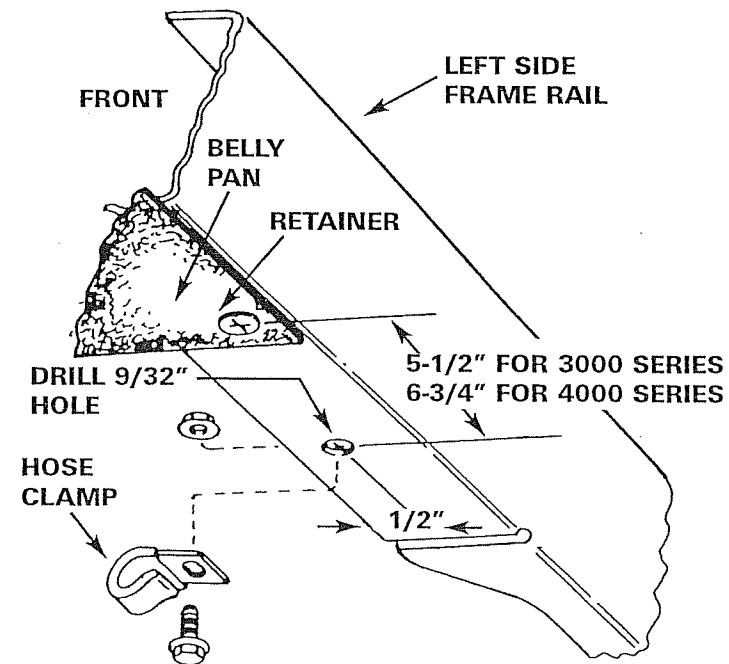
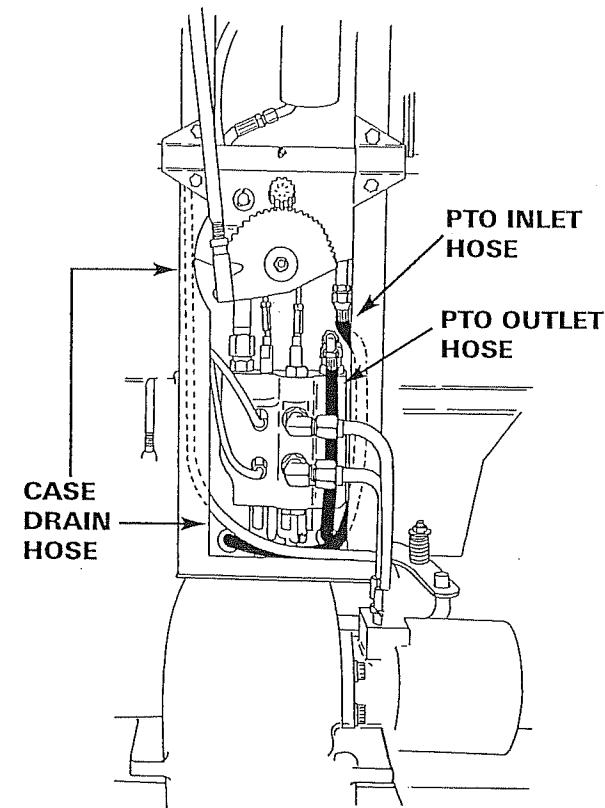
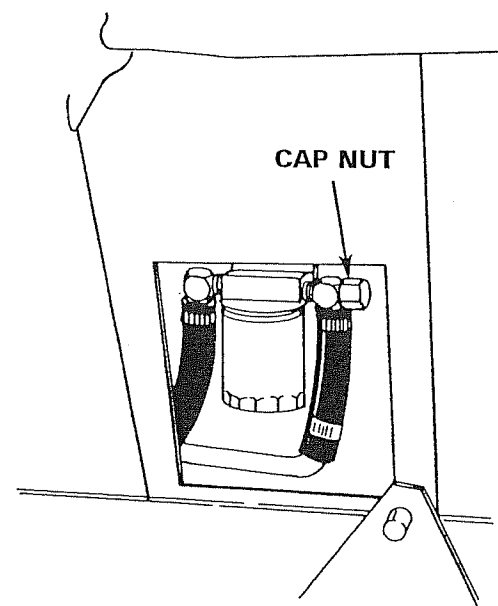
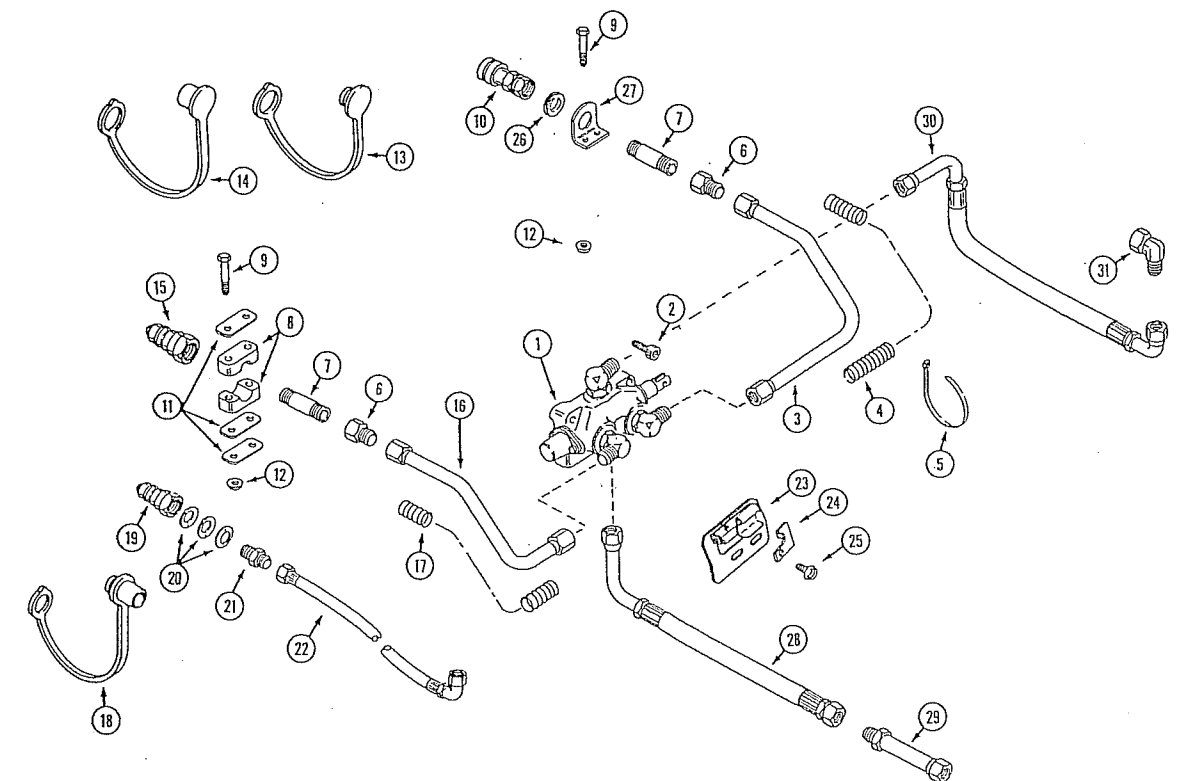

FIGURE 1
FIGURE 4
FIGURE 5
FIGURE 7
1. Remove jumper wire(s) from safety switch electrical connectors and install connectors to switches mounted to lockout plate assembly (23). These wires and connectors will be found between front seat support and fuel tank.
**IMPORTANT:** Unless PTO is being used with a tiller, the reverse lockout latch (24) must be installed. See figure 7.
**NOTE:** Early production tractors did not have a clamp mounting hole in the left frame rail behind belly pan. See figure 1 and add hole if necessary.
1. Route 90° hose fitting up to cap nut fitting on hydraulic oil filter head (see figure 5). Center section of hose will lay up in right side frame rail. See figure 4. Rear section of hose will cross over behind travel valve and connect to adaptor fitting (21) at rear seat support. Tighten adaptor fitting (21) to hose (22).
2. Apply Teflon tape to adaptor fitting (21). Install three (3) belleville washers (20) as shown in figure 7.
3. Install adaptor fitting (21) through hole in rear seat support and install male quick coupler (19). DO NOT tighten at this time, fitting must be allowed to swivel.
4. Remove cap nut from fitting at hydraulic oil filter head. See figure 5. Install 90° case drain hose fitting. Position hose so it does not contact moving parts and tighten.
5. Tighten male quick coupler (19) at rear adaptor fitting (21) of case drain hose.
6. Install case drain hose clamp, bolt and nut. See figure 1. Clip hose in clamp.
3. Connect PTO inlet hose (28) (with one 90° bend) to bottom fitting on PTO valve. Use the shorter hose for 3000 series tractors and longer hose for 4000 series tractors. Route hose as shown in figure 4.
2. Left hand tube. See figure 7.
- a. Install pipe adaptor fitting (6) and pipe nipple (7). Use pipe thread sealant on both ends of pipe nipple.
- b. Put mounting bracket (27) with rubber grommet (26) over pipe nipple. Secure to fender support with 1/4" x 3/4" bolts and flange lock nuts.
- c. Install rubber dust plug (13) and female quick coupler (10) on pipe nipple.
3. Right hand tube. See figure 7.
- a. Assemble the same as left hand tube but use male quick coupler (15) and rubber dust plug (14).
**NOTE:** If this PTO is to be used with a log splitter or chipper-shredder, do not install mounting bracket (27). Use clamp (8, 11) to secure R.H. tube. This will allow mounting of the off-seat operation switch. The clamp and switch are included with the log splitter or chipper-shredder.
5. Install black plastic conduit (4) (17) on both work port tubes. Secure the conduit with nylon ties (5) on each end.